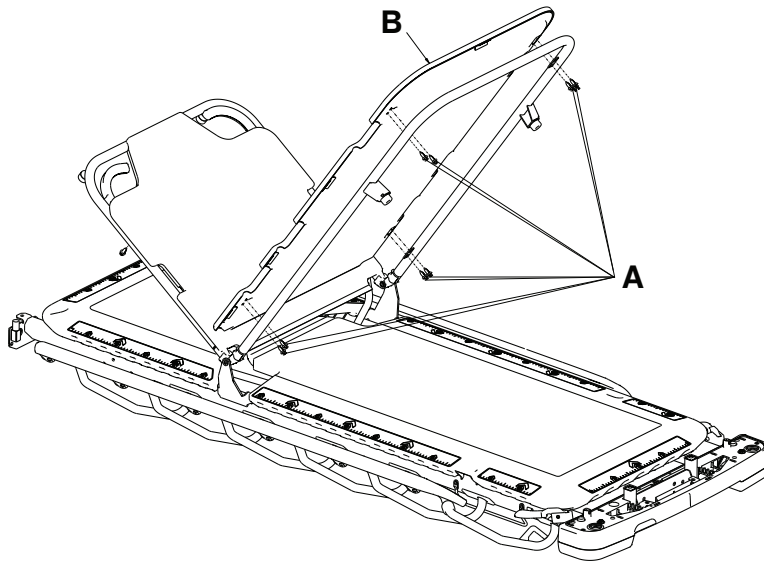

Figure 59 – Foot skin replacement, Prime X option
4. Using a #2 Phillips screwdriver, unscrew the eight scrulok screws (A) that secure the foot skin to the foot frame (Figure 59).